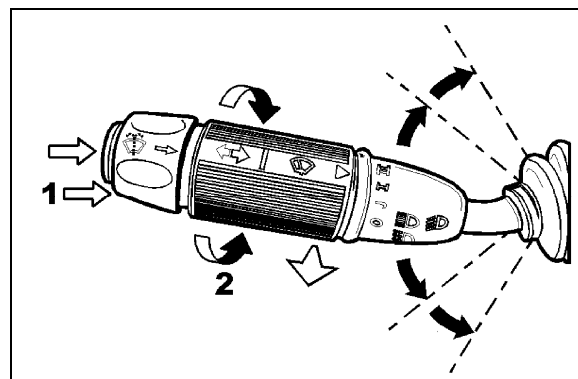

FIGURE 32: MULTIFUNCTION LEVER
Turn the multifunction lever forward to activate windshield wipers (item 2, fig. 32). The first position operates the wipers at low speed and the second position operates the wipers at high speed. Turning the lever backwards will operate the wipers in the intermittent mode.
The windshield washer pumps are electrically operated and are controlled by a washer control ring on the multifunction lever (item 1, fig. 32).